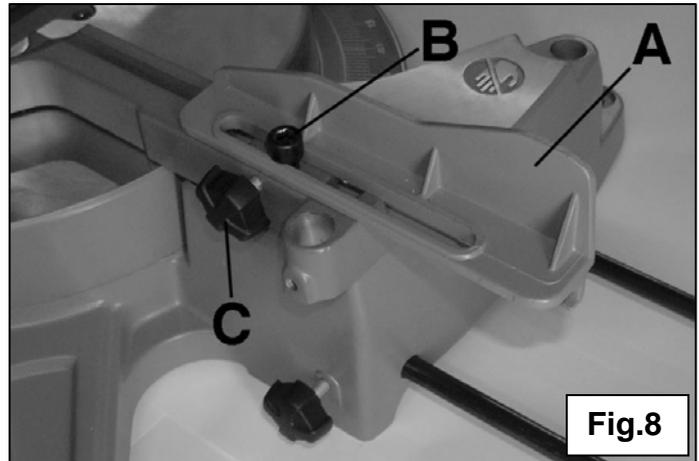

Fig.8
1. Loosen the exagonal screw (B) Fig.8 with an exagonal wrench.
2. Loosen the knob (C).
3. Slide the extension (A) on the desired position and tight the screw (B), then the knob (C).